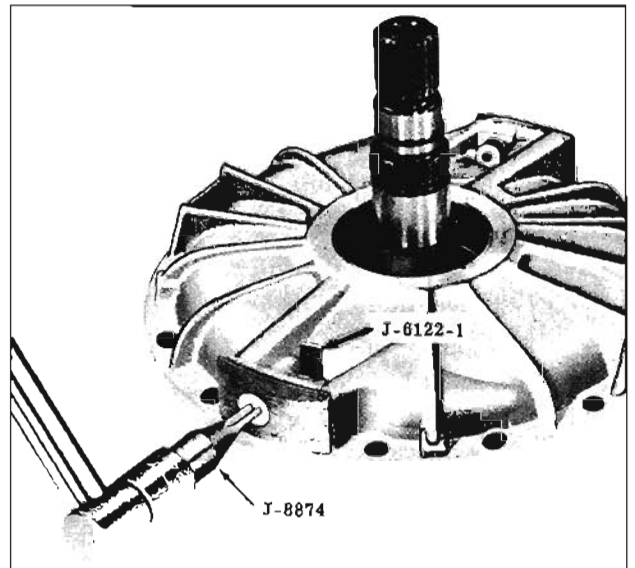

Fig. 6-67 Installing Exhaust Valve Cover
2. Install Exhaust Valve Retaining Tool J-6122-1. (Fig. 6-67)
3. Install torus cover exhaust valve gasket and cover. Torque the retaining screw 20 to 25 ft. lbs. using Tool J-8874. (Fig. 6-67)